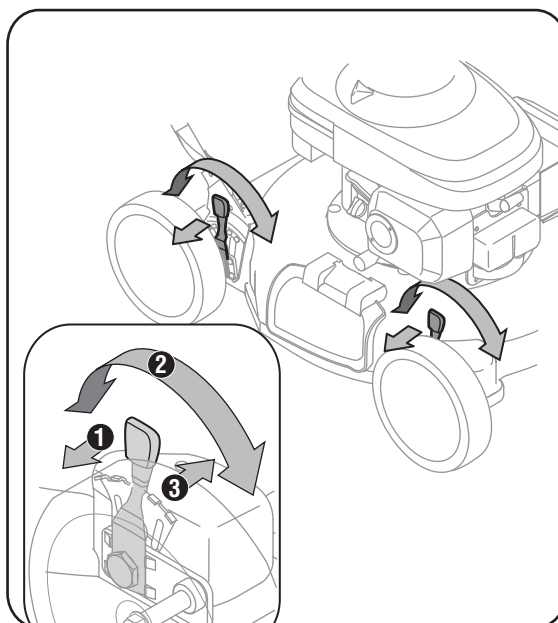

Figure 4-5
5. Each wheel has a height adjustment lever to change the cutting height of the mower. To change the height of cut, squeeze adjuster lever toward the wheel, moving up or down to selected height. See Figure 4-5.